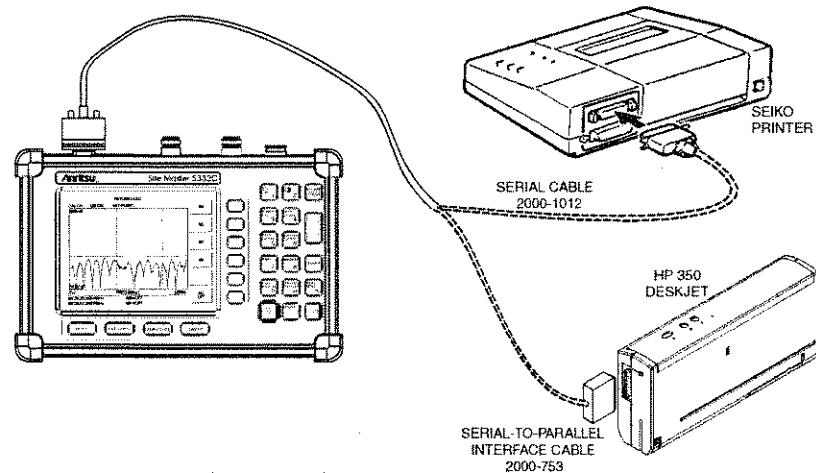

Figure 3-4-. Site Master Printer Setup
**Step 1.** Connect the printer as shown in Figure 3-4.